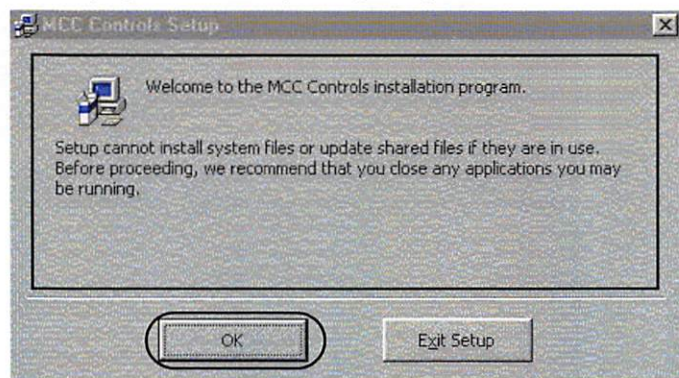

FIGURE 5
8. When the **MCC Controls Setup** program screen is displayed, click **OK** (see Figure 5).